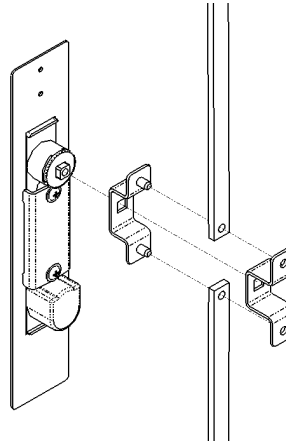

Fig. 2.3.2.2a Two-point, cam latch
2. Remove the latch and lock assembly and latch faceplate from the door by removing the two clamp bar screws on the back side of the latch (see Fig. 2.3.2.2a).